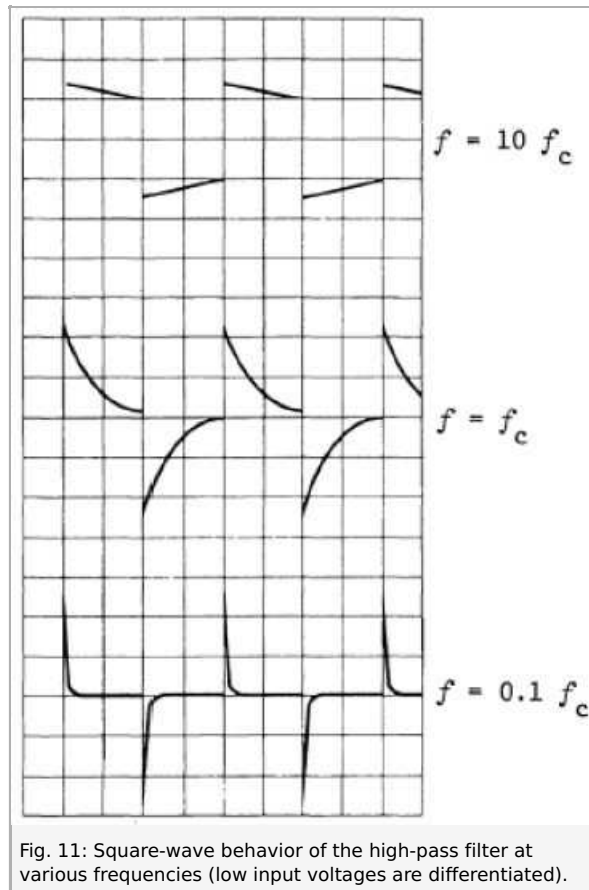
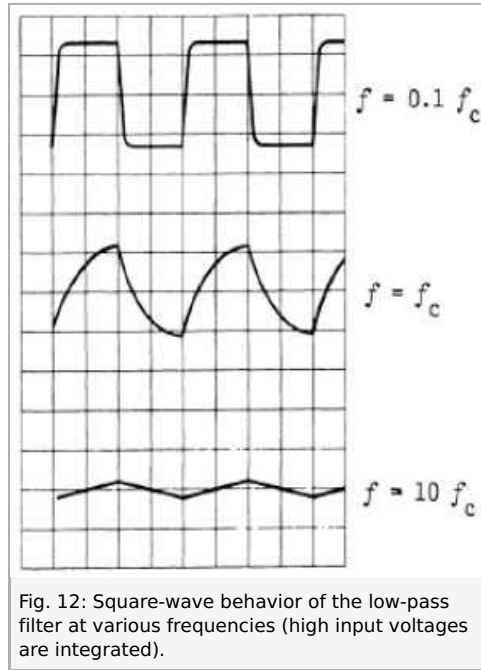

Fig. 11: Square-wave behavior of the high-pass filter at various frequencies (low input voltages are differentiated).
Fig. 12: Square-wave behavior of the low-pass filter at various frequencies (high input voltages are integrated).
- To investigate the square-wave behavior of the differentiating network (high-pass) and the integrating network (low-pass), square-wave frequencies of 0.1, 1 and 10 times the cut-off frequency f_c are fed to the input. Set the signal in the function generator to square-wave. Set the frequency to low (high) for the low-pass (high-pass) filter. Increase (decrease for high-pass filter) the signal frequency and observe the gradual change of the filter signal. The low-pass filter integrates high input frequencies (Fig. 12), while the high-pass filter differentiates low input frequencies (Fig. 11).
Low-frequency input voltages are therefore differentiated (Fig. 11).
Hence, high input voltages are integrated (Fig. 12).